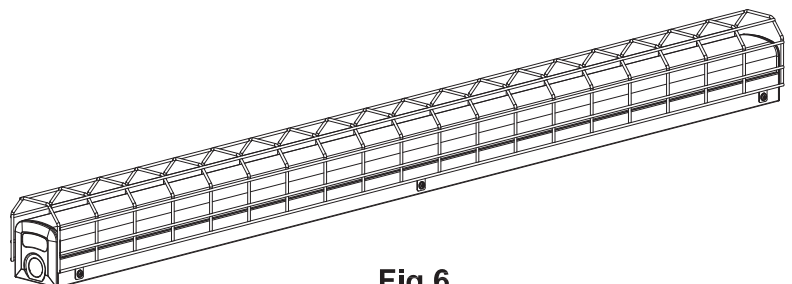

Fig 6
3. Complete as shown in Fig. 6 .